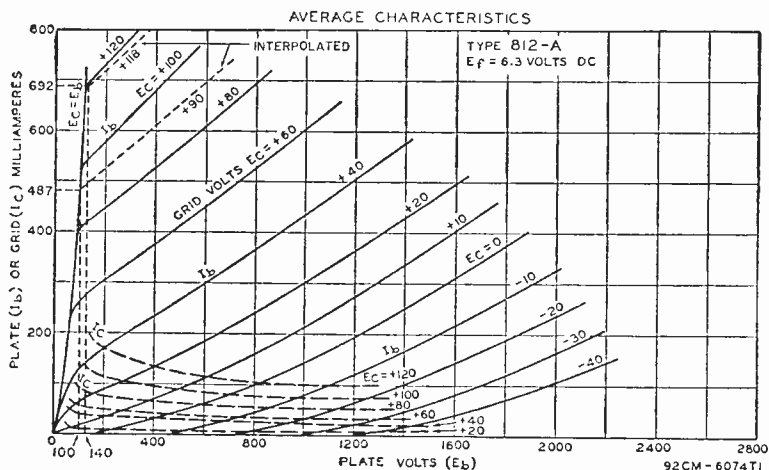

Fig. 45
(1) From the published data for the 812-A, the maximum plate-input rating is 260 watts. The dc plate current ( $I_b$ ) required to provide this input at a plate voltage, ( $E_b$ ) of 1500 volts is  $I_b = 260/1500 = 0.173$  ampere, or 173 milliamperes.
(2) From Table I,  $K_1$  for a conduction angle of 140 degrees is 4. Therefore, peak plate current ( $i_{b\max}$ ) =  $0.173 \times 4.00 = 0.692$  ampere, or 692 milliamperes.
(3) The average characteristics curves given in Fig. 45 show that a peak plate current of 692 milliamperes is obtained at a peak positive grid voltage ( $e_{c\max}$ ) of 118 volts and an effective minimum plate voltage ( $e_{b\min}$ ) of 140 volts.
(4) From Table I,  $K_2$  for a conduction angle of 140 degrees is 0.862. Therefore, power output ( $P_o$ ) =  $0.862 \times (1500 - 140) \times 0.173 = 203$  watts (approx.).
(5) Plate dissipation ( $P_p$ ) =  $(1500 \times 0.173) - 203 = 57$  watts (approx.)
(6) From Table I,  $K_3$  is 0.520. From the published data, the amplification factor  $\mu$  is 29. Therefore, the dc grid voltage or bias ( $E_c$ ) =  $-[0.520 \times (118 + 140/29) + 1500/29] = -[0.520 \times (118 + 4.8) + 52] = -(64 + 52) = -116$  volts.
(7) Peak rf grid voltage ( $E_g$ ) =  $-(-116) + 118 = 234$  volts.
(8) From the average characteristics curves shown in Fig. 45, for  $e_{c\max}$  of +118 volts and  $e_{b\min}$  of 140 volts, peak grid current ( $i_{c\max}$ ) = 195 milliamperes (approx.).